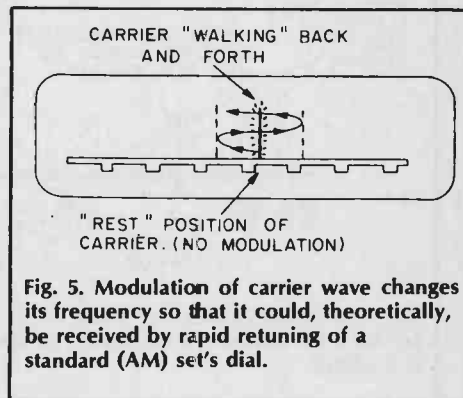

Fig. 5. Modulation of carrier wave changes its frequency so that it could, theoretically, be received by rapid retuning of a standard (AM) set's dial.
convenient device for space applications is the traveling-wave tube (TWT), which amplifies or generates microwave energy with very low noise and high sensitivity. Shown in Fig. 5, the tube consists of a narrow evacuated tube with a wire helix wound around it. A beam of electrons is sent along the inside of the tube while the signal to be amplified is fed into the helix.
Fig. 5. Traveling-wave tube (TWT). Though it delivers much less power than either magnetron or klystron, traveling wave tube is most versatile of microwave oscillators. Some TWTs in existence are capable of pumping out over 100 watts at 10,000 MHz.
**The Walking Carrier.** If the audio frequency were low enough—say, for example one hertz (cycle-per-second) we could actually "see" the carrier moving back and forth—walking up and down on the dial of the receiver (if we constantly retuned the dial pointer correctly). This is shown in Fig. 5. Notice in that drawing that the back-and-forth motion of the carrier reproduces the original audio waveform (which happens to be a sine wave in this simple example). It's a one hertz back-and-forth motion. If we increase the audio frequency to 3 Hz, the carrier will "walk" rapidly back and forth at a 3-Hz
**FM—Another View.** In Figure 5 we visualized FM resulting from a 1-Hz “audio” signal as a carrier shifting slowly back and forth around its rest (unmodulated) position. This is easily visualized for a 1-Hz signal, but what happens when we apply a flute sound at 700-Hz to an FM transmitter? We can, if we wish, think of a carrier buzzing rapidly back and forth at a 700-Hz rate. But this is rather awkward, and we find ourselves asking if there’s *another* way to visualize this signal. For example, does an FM signal have sidebands? Can we visualize FM as a *non-moving, non-walking* carrier surrounded by sidebands, just like AM?